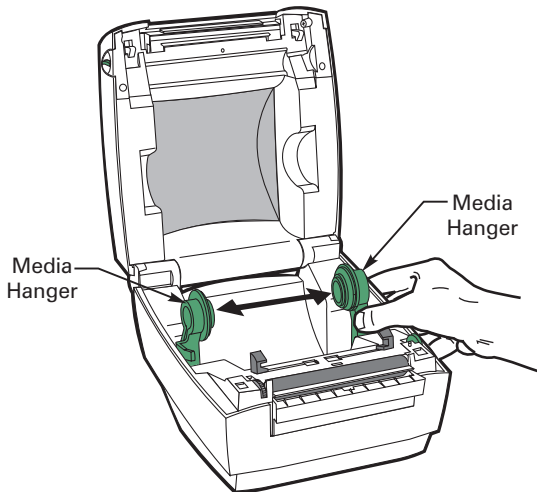

Figure 9
2. Separate and hold open the media hangers (refer to Figure 9).